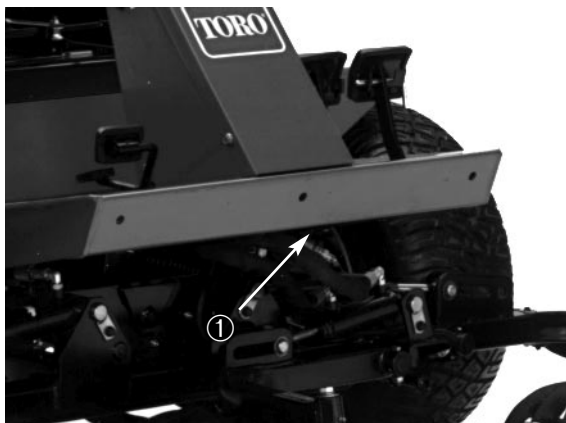

Figure 22
2. Attach a suitable chain, strap or cable to the center of the front frame member (Fig. 22).